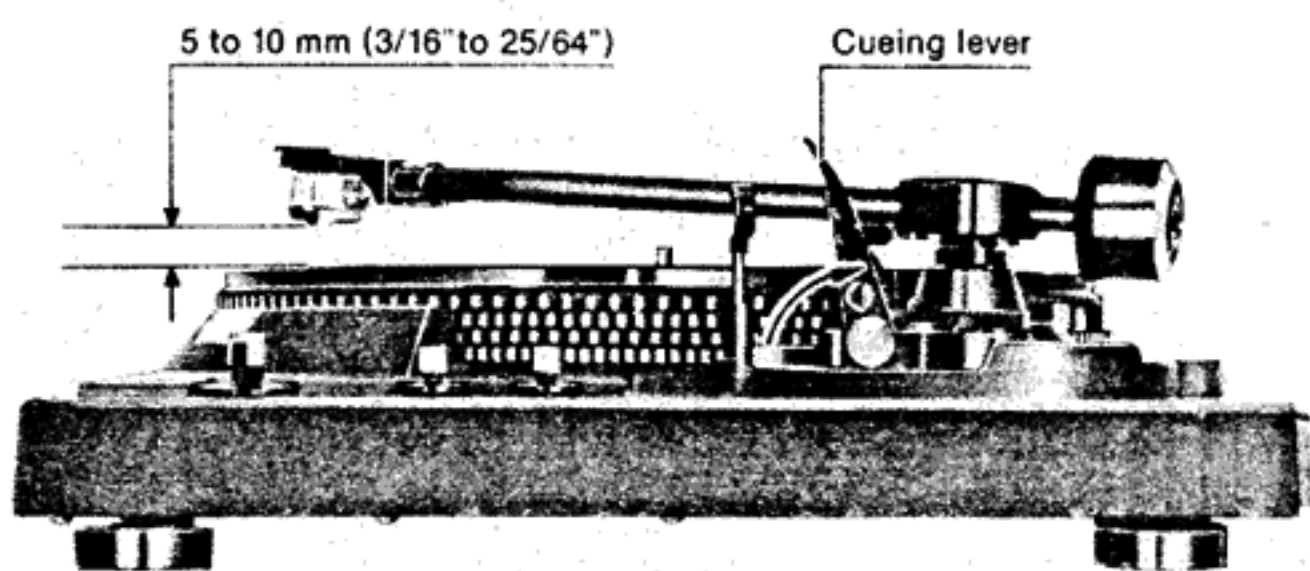

Fig. 8
1. **Adjustment of the arm lift height** (See Figs. 8 and 9)